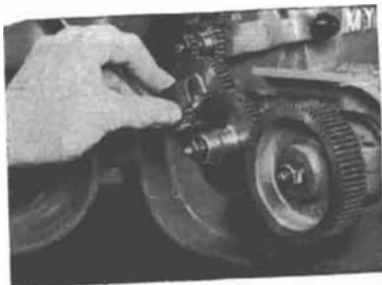

FIG. 8
The REVERSIBLE CLUSTER GEAR (3) is changed (i.e. the Cluster Gear is mounted with the 57T or larger gear innermost) to select the range of fine pitches. (See Figs. 8, 9 and 1D).